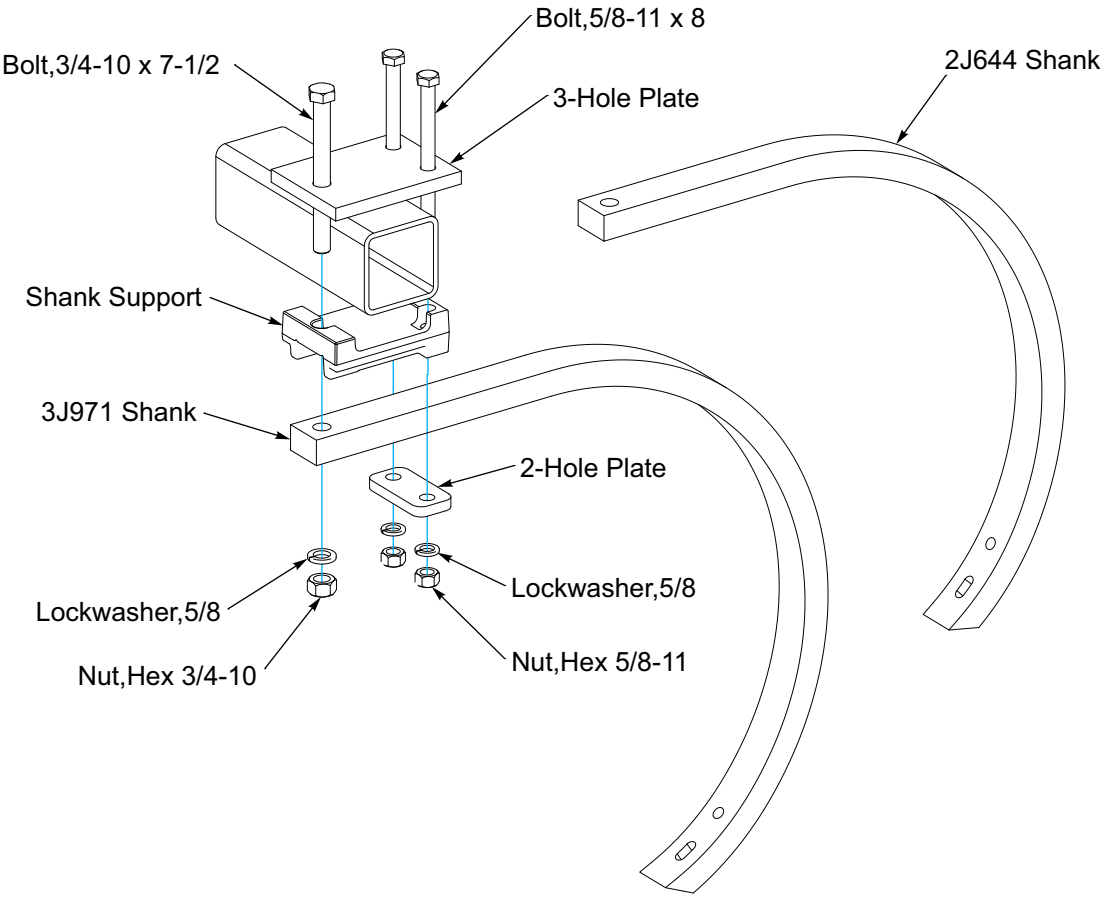

Figure 2-40: Rigid Shank Clamp Assembly
2. Place 2-Hole Plate under the Shank Support and fasten it all together with 5/8-11 x 8 Bolts, Lockwashers and turn Hex Nuts flush with the Bolt to allow for Shank installation. **See Figure 2-40.**